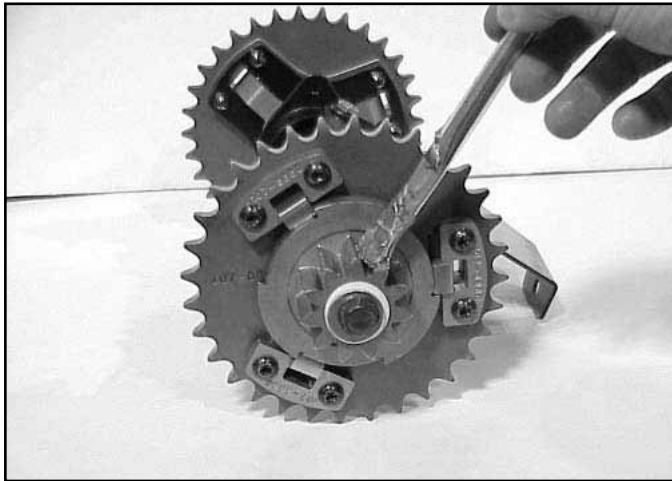

Fig 204
15. Apply a light coat of anti seize to the 11-tooth gear (Fig. 204). Repeat the process for the opposite side.